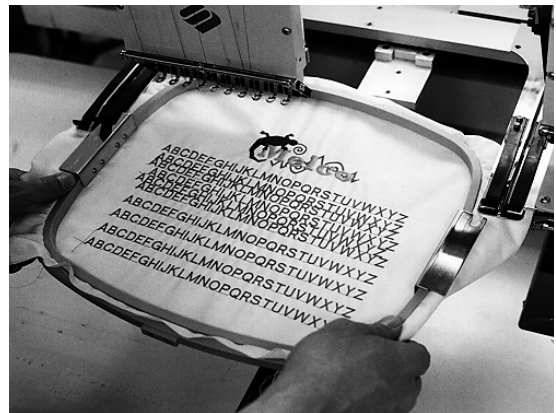

Figure 3-9
4. Insert the hoop frames by sliding the side brackets underneath the spring clips on the support arms. The bracket with the open-ended slot goes on the right side (refer to Figure 3-9). Make certain that the slot engages with the pin in the support arm, and that the brackets are fully seated beneath the spring clips.